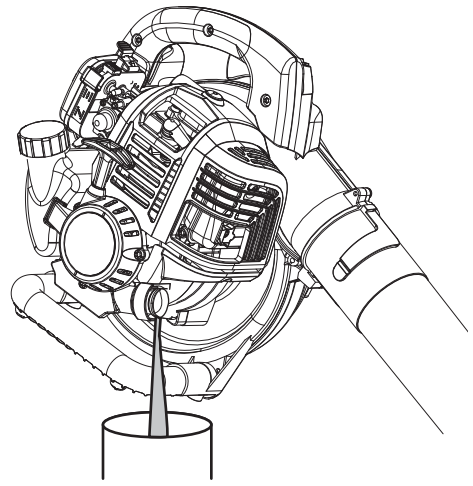

Fig. 11
3. Clean the area around the oil fill plug (Fig. 11) to prevent debris from entering the oil fill hole.
3. Tip the unit vertically to pour the oil out of the oil fill hole and into a container (Fig. 11). Allow ample time for complete drainage.